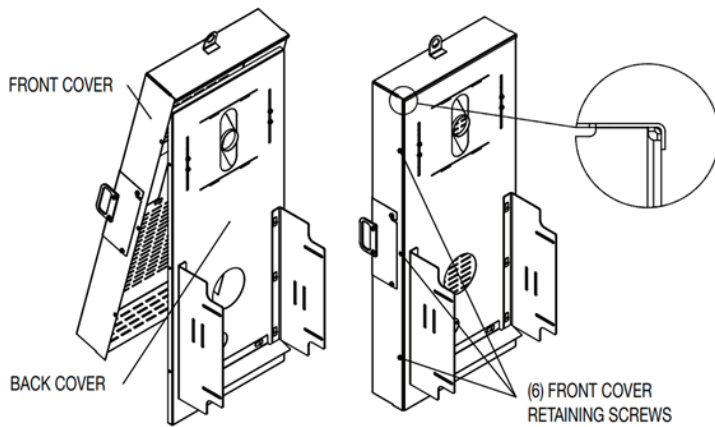

Figure 7 - Installation of the Front Cover
6. Install the front cover by lifting the front cover higher than the top of the back cover using the lifting handles or lifting bracket, shown in Figure 7, attached to the front cover. Use an appropriate lifting device when using the lifting bracket.